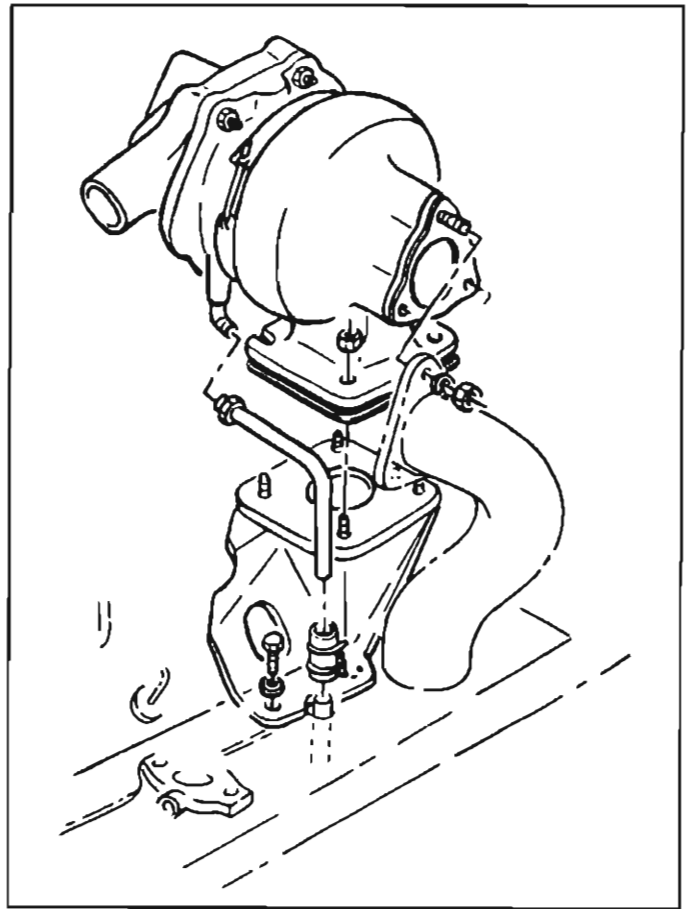

Fig. 61—Turbine Housing Flanges and Gaskets
4. Remove three nuts and washers from turbine flange studs (fig. 61).